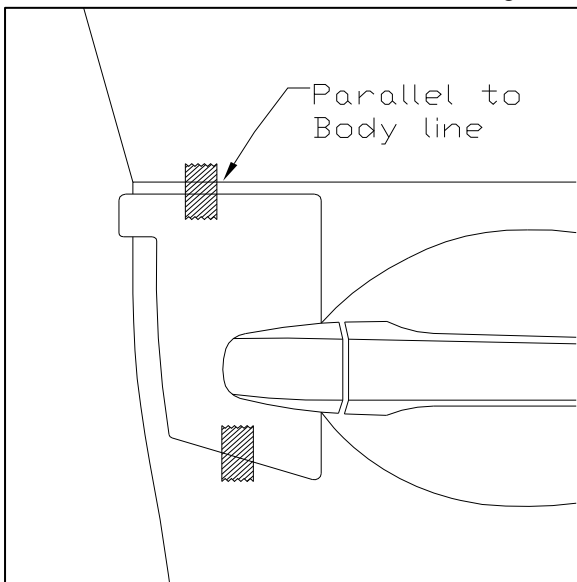

Fig. 1-2
- (c) Select front door template and fit notch around door handle. Adjust as needed to ensure it is parallel to body line directly above the template. If needed, tape into place using painter’s masking tape. (Fig 1-2)